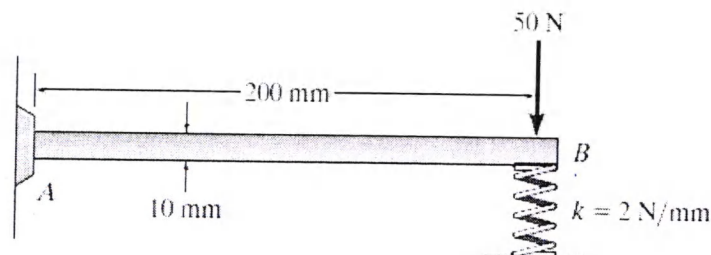

Figure 3
- Determine the deflection at the end B of the clamped A-36 steel strip. The spring has a stiffness of $k = 2 \text{ N/mm}$. The strip is 5 mm wide and 10 mm high (Figure 3). Also, draw the shear and moment diagrams for the strip. Use Force method. [5]